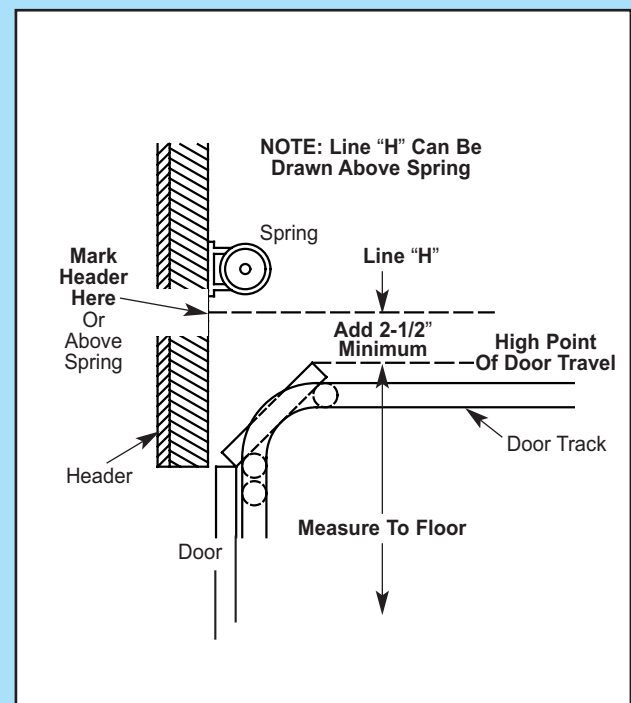

Fig. 2-2
2. Establish Header Bracket position (Fig. 2-2).